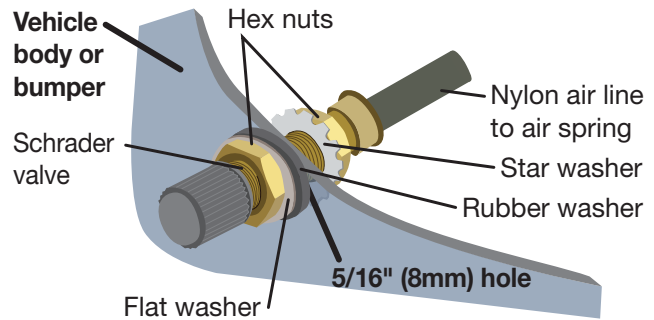

Fig. 26
3. Install the Schrader valve in the chosen location (Fig. 26).